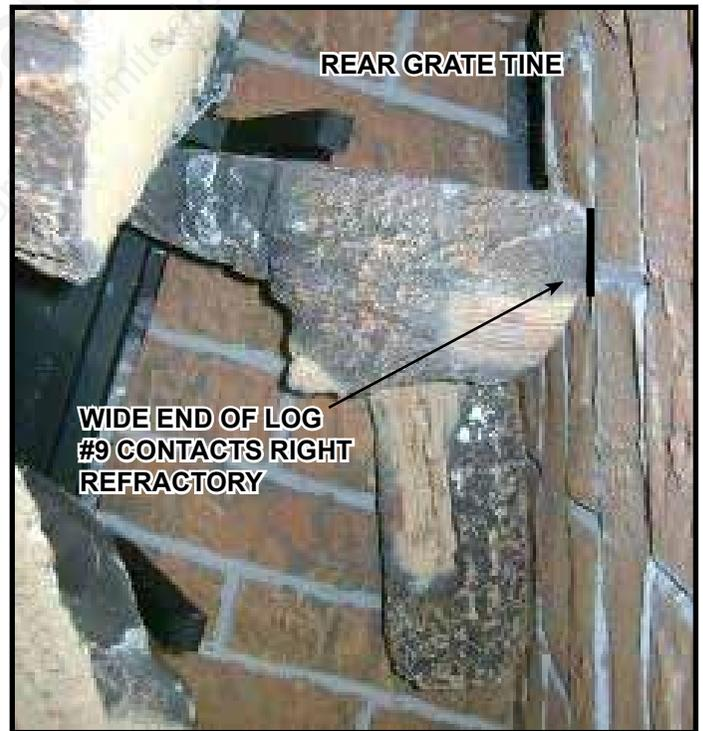

Figure 13.
**Log #9 (SRV2170-725):** Place Log #9 into appliance as shown in Figure 13. Place log so that the wide end rests on Log #7 and contacts the refractory on the right side of the firebox just in front of the air intake port. The narrow end of Log #9 should contact the rear of Log #1 and the middle of Log #9 should contact the rear-right vertical grate tine.